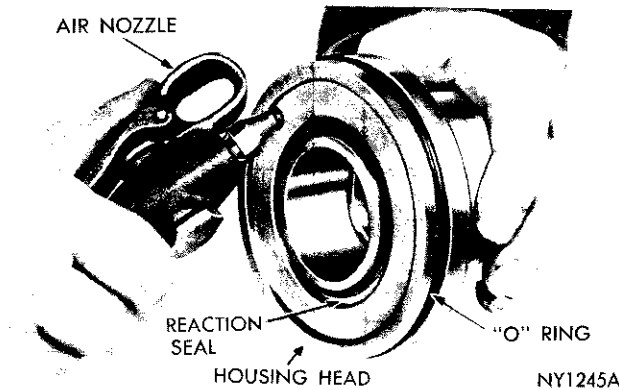
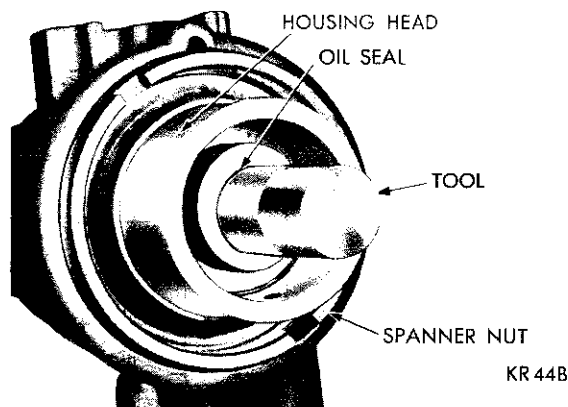

Fig. 9—Removing Reaction Seal From Housing Head
Fig. 10—Installing Wormshaft Upper Seal
(24) Remove the large "O" ring from the groove in the support.
(25) Remove the reaction seal from the groove in the face of the housing head with air pressure directed into the ferrule chamber (Fig. 9).
(26) Inspect all the grooves for burrs. Make sure the passage from the ferrule chamber to the upper reaction chamber is unobstructed.
(27) Install the wormshaft upper oil seal using Tool C-3650 (Fig. 10) (with the lip of the seal toward the bearing).